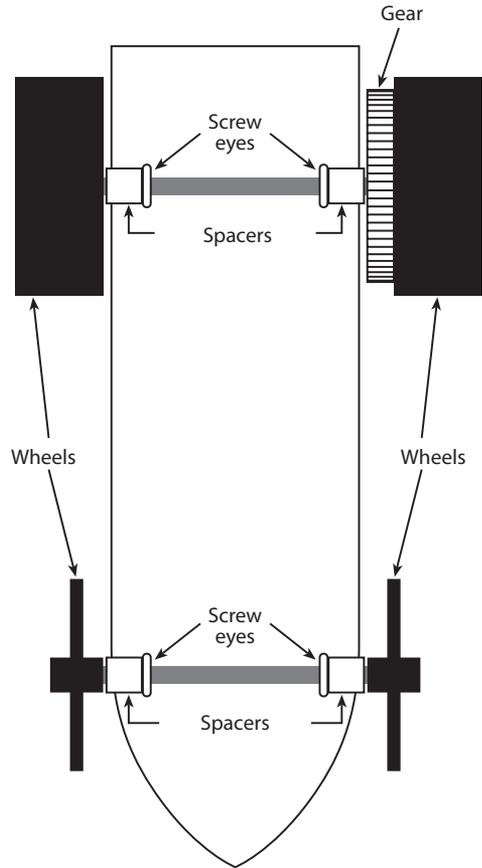

Figure 2
11. Push the drive gear on the axle end until it is snug against the wheel. Add a spacer against the gear. Hold the car so the bottom of the chassis board is facing up and the back end is toward you. From the left side, push the end of the axle through the two screw eyes that are on the back axle line (Figure 2 on the next page). When you flip the car over, the wheel and gear will be on the right side.
12. Place another spacer on the end of the axle. Push the other rear wheel on the axle (Figure 2). For the wheels to turn properly, make sure the wheel and axle parts are not pushed together too tightly.
13. Place the other axle into one of the front wheels. Follow with a spacer and then push the axle through the two front screw eyes. Follow with another spacer and the other front wheel (Figure 2). Again, make sure the parts are not too tight. If any of the wheels rub against the chassis, cut slightly longer spacers and replace the old spacers.